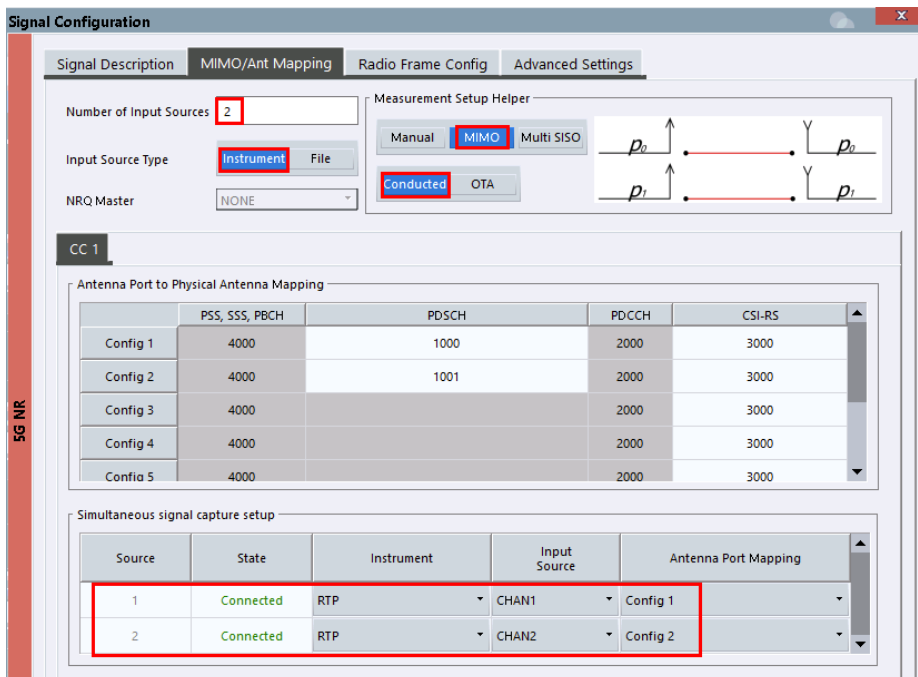

Fig. 3-13: MIMO setup and antenna port (AP) to physical antenna mapping with RTP/RTO
2. In the opened configuration window (see Fig. 3-13), enter the number of MIMO layers in the field "Number of Input Sources". For example, "2" for 2x2 MIMO case.